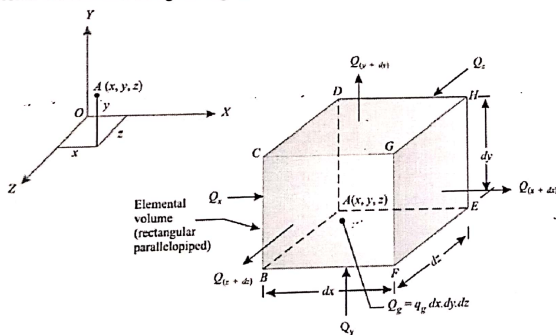

Fig. 1
- (d) Derive the general heat conduction equation for constant thermal conductivity in Cartesian Coordinates using the Fig. 1.